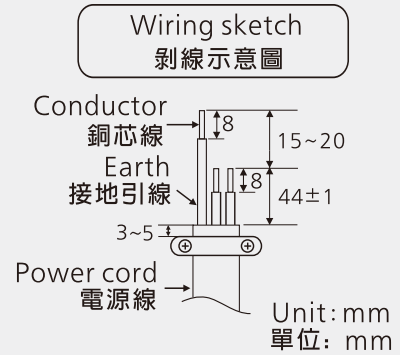

Figure 1
-  For the stripping length, please prepare according to the wiring sketch (refer to figure 1). If the stripping length is too long, it may cause short circuit.